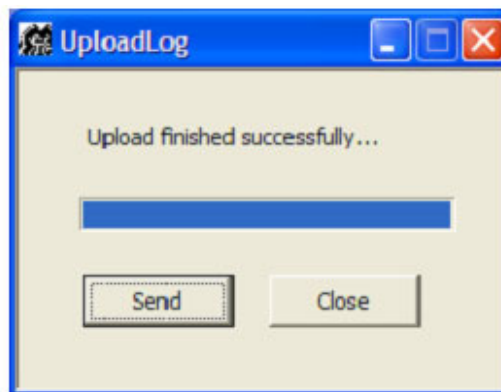

Figure 7-151 Upload Complete
- 4.) Observe the progress bar completion, as shown in Figure 7-151.